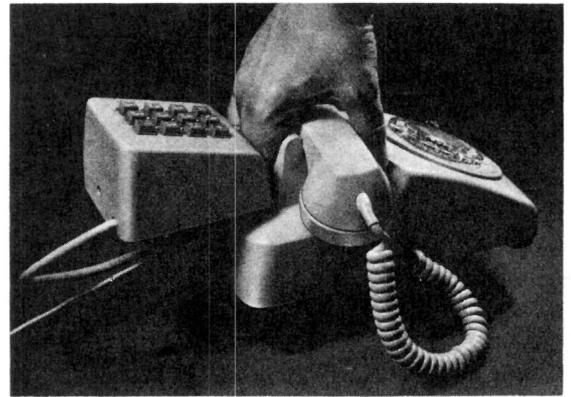

Fig. 5—1035C3A Dial Mounted on 500DR Telephone Set Using 109A Bracket
- (2) Attach the 1035C3A dial to the telephone set as shown in Fig. 5.
- (3) Refer to appropriate connection figure to connect dial to telephone set.